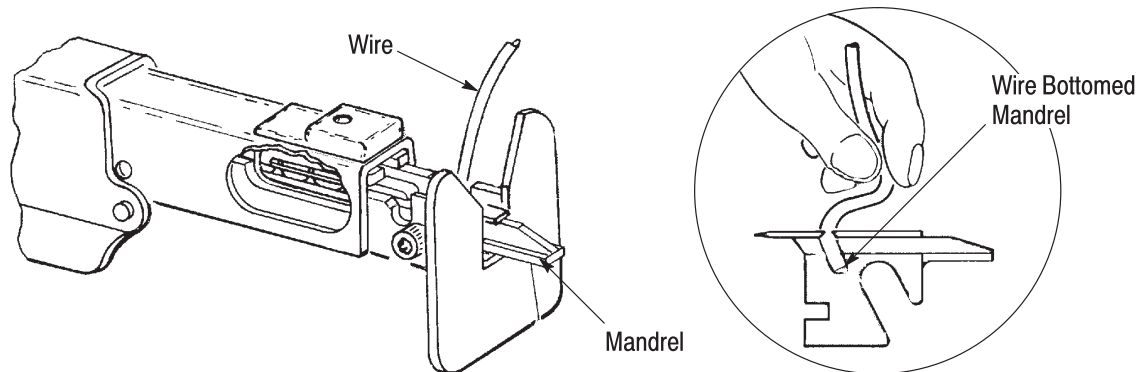

Figure 6
1. Insert an unstripped wire into the hole in the top of the mandrel. Make sure the wire bottoms in the mandrel. See Figure 6.